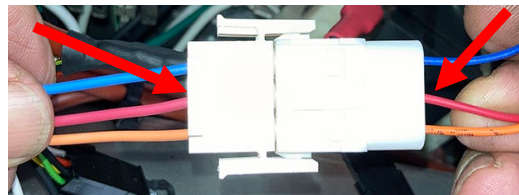

Figure 32
- n. Insert the red molex wire from the harness from step e into the 3-pin connector directly across the existing red wire (see Figure 32). Gently pull on the connector to ensure it is locked into place.